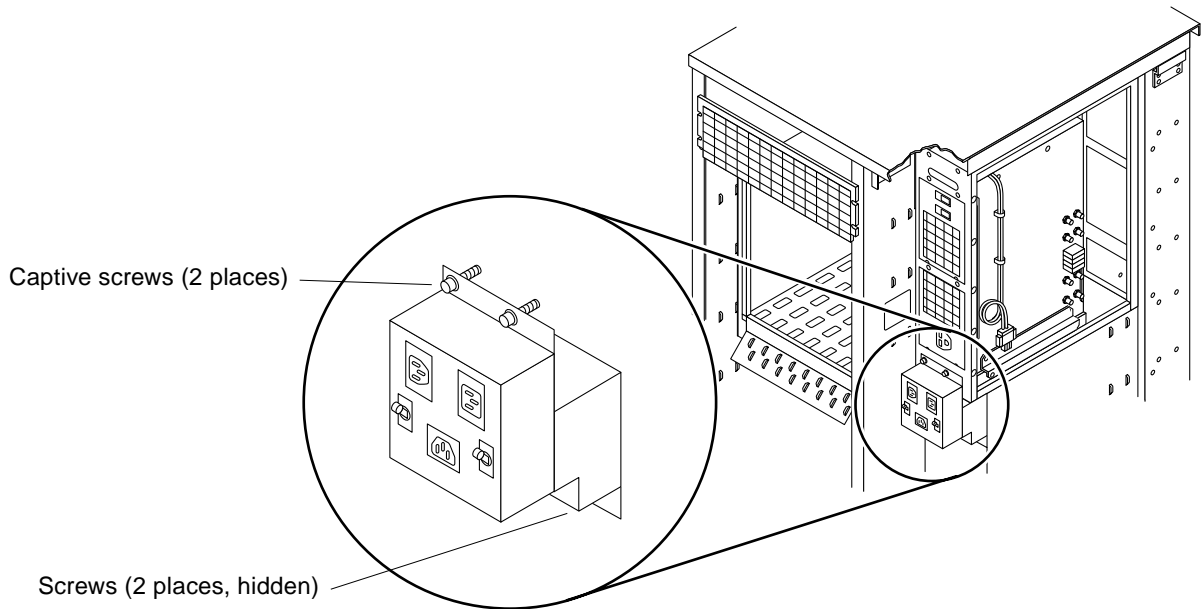

Figure 2-7 Removing the Power Breaker Box
1. Remove the power breaker box. See Figure 2-7.